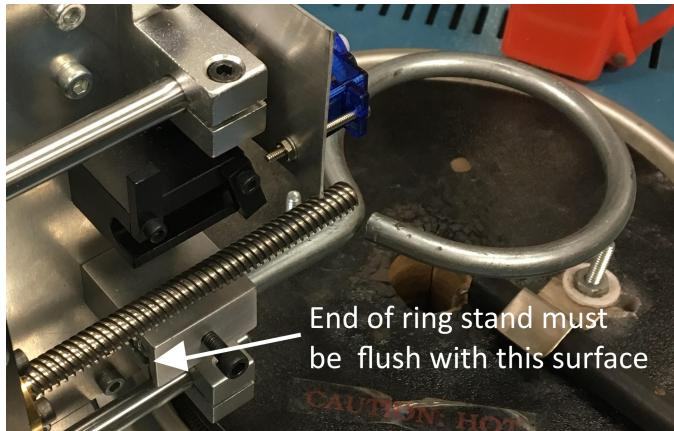

Figure 9: Place the ring stand so its end is flush with the inside surface of the mount block
- Note that the end of the ring stand rod must be nearly flush with the inside surface of the ring stand mount block See Figure 9